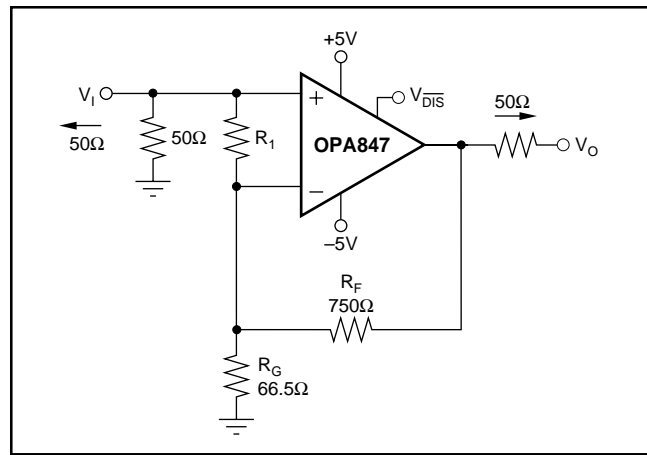
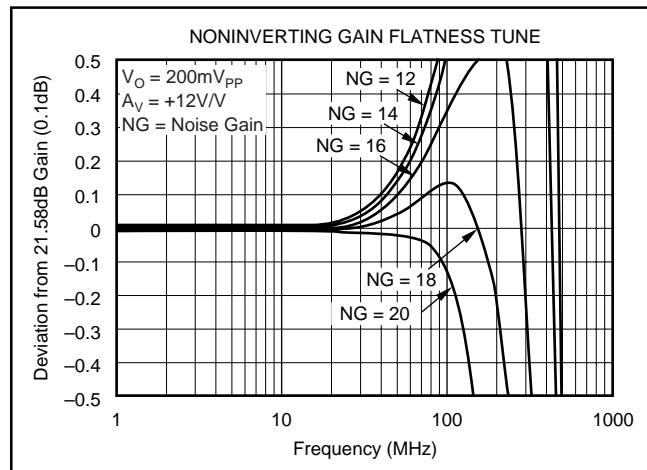

FIGURE 8. Low Noninverting Gain Flatness Trim.
FIGURE 9. Frequency Response Flatness with External Tuning Resistor.
Figure 8 shows a resistor-based compensation technique that allows the flatness at low noninverting signal gains to be controlled separately from the signal gain. This approach retains the full slew rate to the output but gives up some of the low-noise benefit of the OPA847. Including the effect of the total source impedance (25 $\Omega$  in Figure 8), tuning resistor  $R_1$  can be set using Equation 8.
$A_V$  = desired signal gain (+12V/V in Figure 8)
NG = target noise gain (adjusted in Figure 9)
The effect of this noninverting gain flatness tune is shown in Figure 9. At an NG of 12,  $R_1$  is removed and only  $R_F$  and  $R_G$  are present in Figure 8. The peaking is typically 4.5dB, as shown in the small-signal frequency response curves versus gain curves at this setting. As  $R_1$  is decreased, the operating noise gain (NG) increases, reducing the peaking and bandwidth until the nominal design point of +20 noise gain gives a non-peaked response.